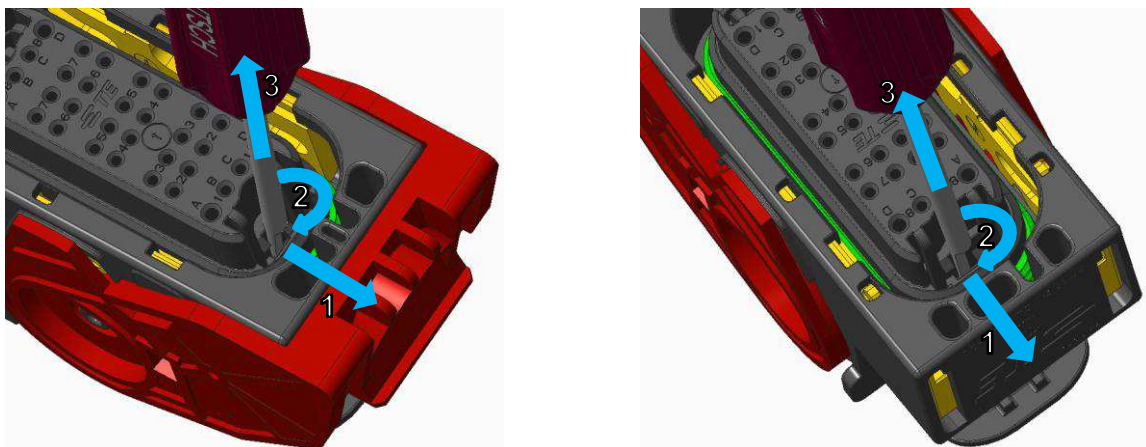

Figure 5
1. Using the hook tip of the DT-RT1 tool, (1) gently (less than 10 N of force) push out the locking clip on one side of the TPA, (2) rotate the hook so that it grabs the bottom of the snap, and (3) pull up very gently (less than 10 N of force) so that it unhooks the lower snap on the connector as shown in Figure 5. It will not take much effort to do this. Do the same for the lower snap on the other side of the TPA as shown. You may need to hold one end with your finger while you unhook the other end. Now repeat that process for the upper snap on both sides of the TPA. Plug is shown as an example. Use the same method to remove the TPA from the receptacle.